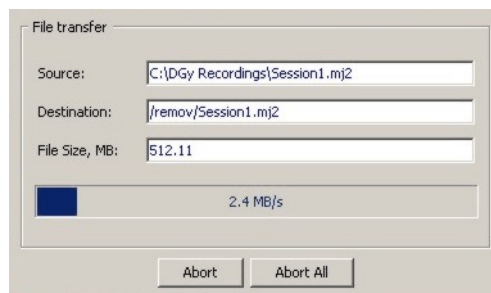

Figure 4-13 File Transfer Screen
7. Click on the **Start** button to initiate the transfer of the files in the **Source Transfer list**. The clip files will be automatically transferred sequentially from the file transfer list. The file that is currently being transferred is indicated in the **File Transfer** screen that appears as soon as the transfer process has been started. See Figure 4-13.